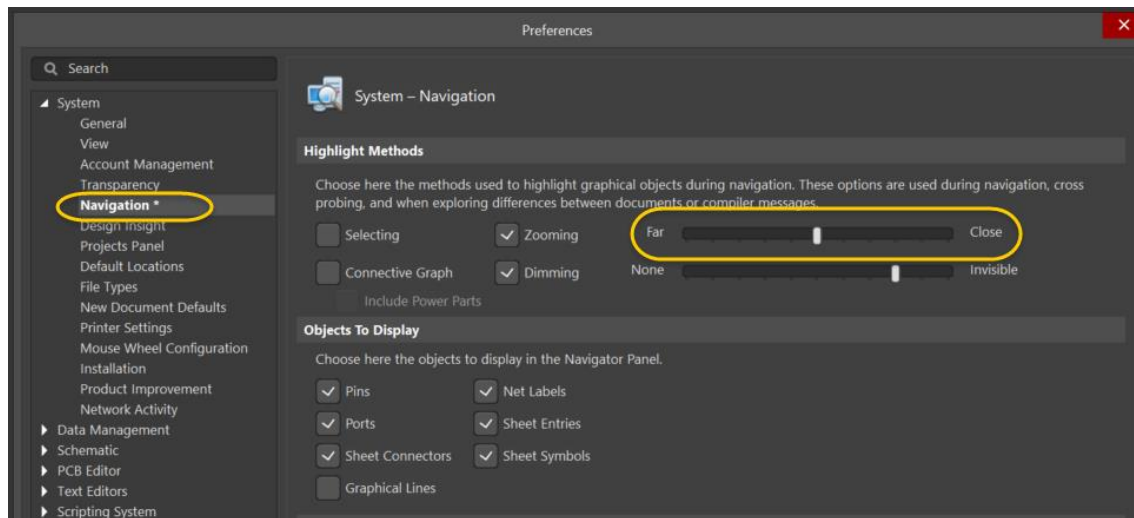

Figure 3. Highlight Preference
17. In the *Highlight Methods* section, set the **Far-Close** slider to mid-range as shown in Figure 3.